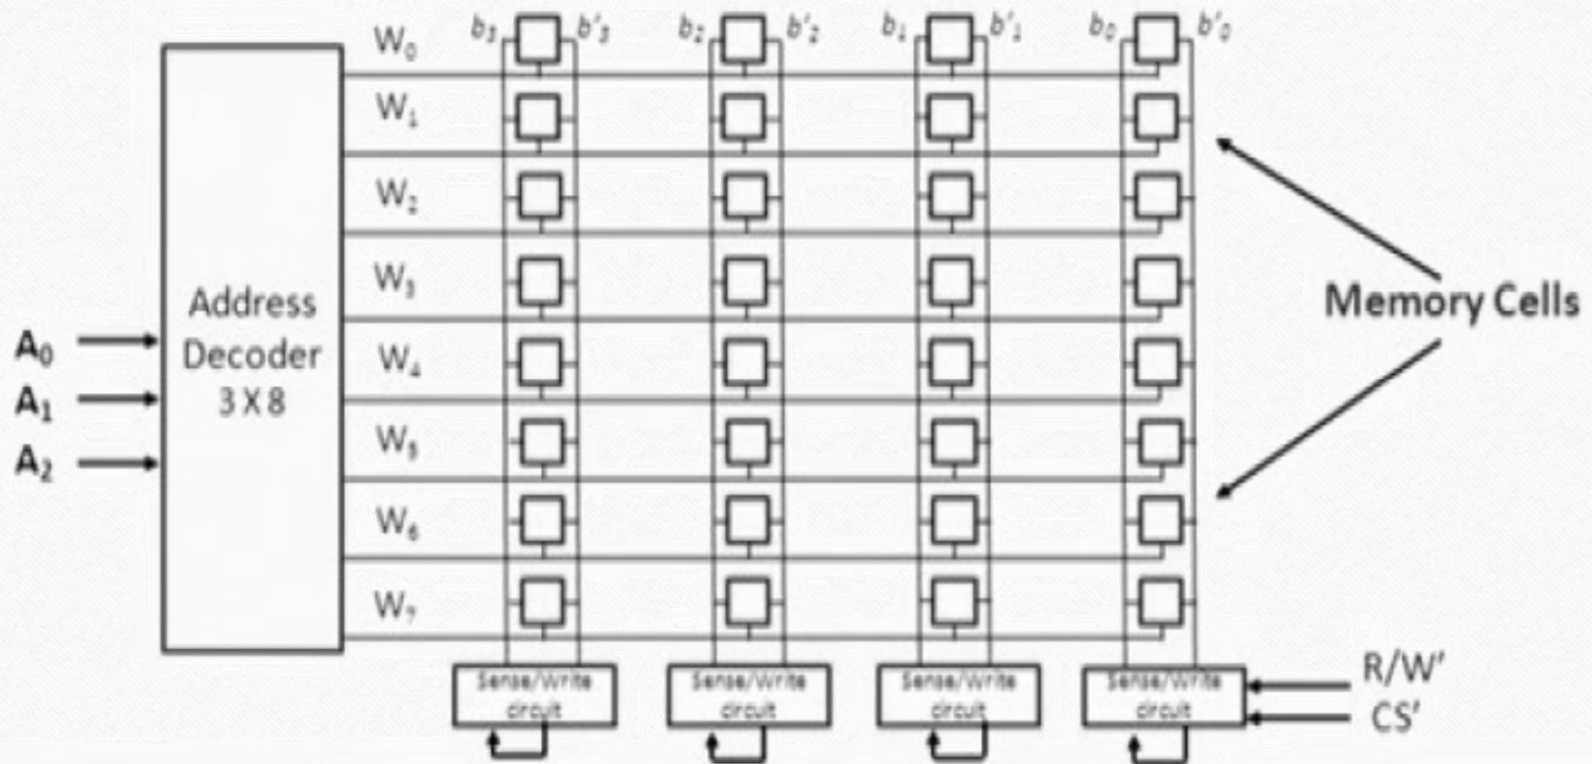

Figure 5.6 8x4 Memory Chip
- A 32 bit memory chip organized as 8 x 4 is shown in the figure 5.6